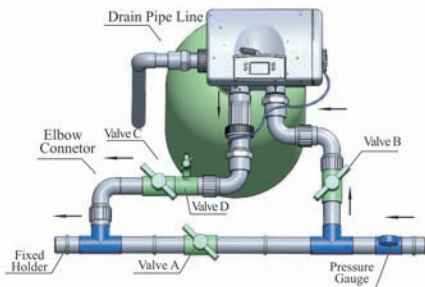

Figure1-3
③ Pipeline connection
- a. As Figure1-3 shows, install a pressure gauge in water inlet.
- b. Install sampling valves in inlet, outlet and pipeline A.B.C.D as showed in Figure 1-3.